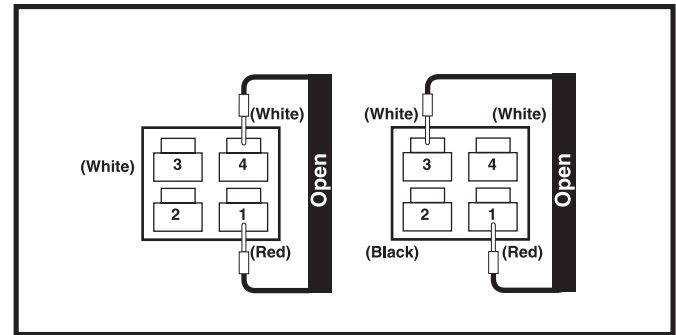

Figure 38. Connector 8a
4. Measure resistance across pin 1 (red) and pin 3 (white) and across pin 1 (red) and pin 4 (white) on connector 8a. **See figure 38.**
- If your multimeter indicates an open on both tests, then replace the left motor interface harness (13) and retest the system.